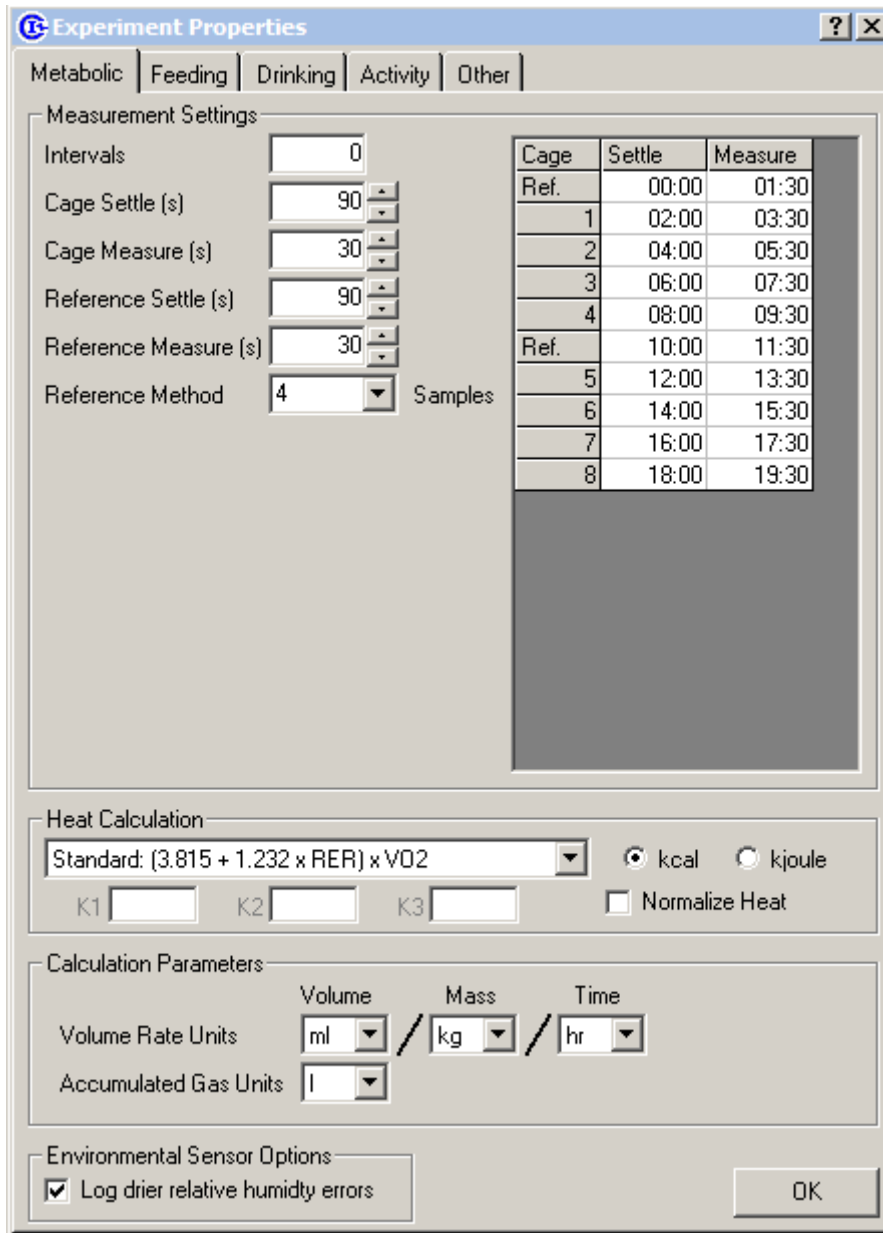

Figure 12 - Metabolic Experiment Properties
When the Experiment Properties Window first opens, it displays the settings for the metabolic components of the CLAMS system as in Figure 12.
- **Measurement Timeline** – The Measurement Timeline is the table on the right-side of the form that indicates the order and schedule for measurements under the current experiment settings. The times listed are presented in minutes since the start of the experiment or since the end of the last line of the schedule. The timeline will show multiple references or cage measurements up until the point the schedule repeats itself. The example in Figure 12 shows a system with four cages being referenced every four cages.